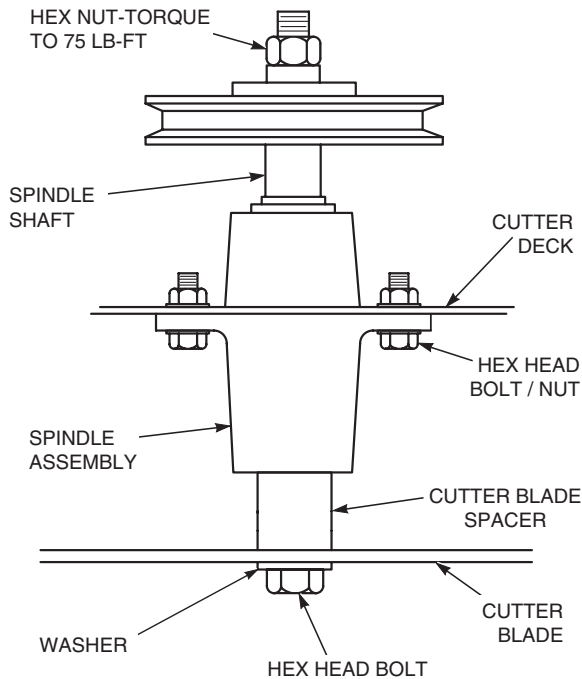

Figure 7-8. Blade Replacement
3. Secure the cutter blades to prevent them from rotating, (use the optional Blade Buddy tool, P/N 9212, to assist in securing the cutter blades), remove the nut from the blade attaching bolt. Remove the cutter blade, bolt and spacer from the spindle shaft. See Figure 7-8.
6. Install the hex nut to the blade bolt at the top of the cutter spindle. Secure the blades from rotating and torque to 75 ft/lbs. See Figure 7-8.